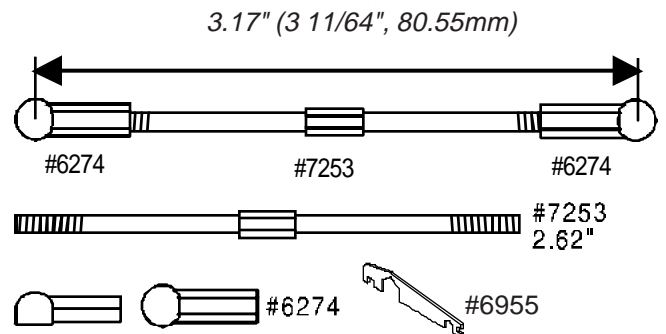

Fig. 37
□ **Fig. 37** In bag #7-2 you will find two #7253 2.62" turnbuckles. From bag #6-14 remove four #6274 ball cups. Thread the ball cups onto each end of the two turnbuckles. Remember the turnbuckles have both right and left hand threads, and on one end of each turnbuckle the ball cup will thread on the opposite way. The drawings with this step show the actual assembled dimension with the ball cups and the actual length of the #7253 turnbuckle. On these two turnbuckles (when assembled) the ball cups all face the same direction.